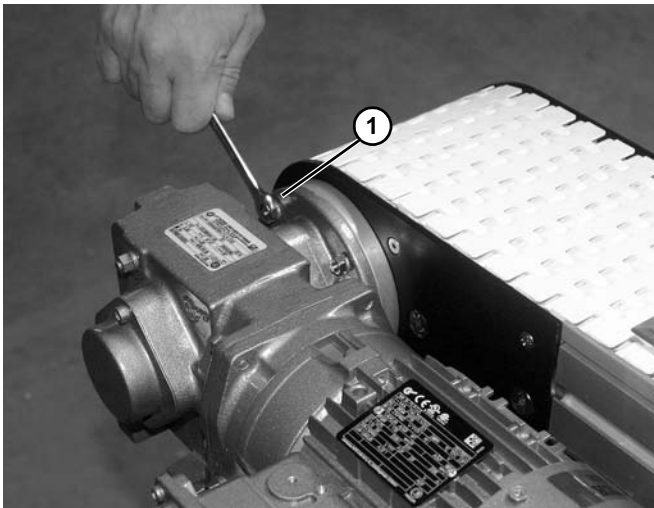

Figure 138
1. Remove four nuts (**Figure 138, item 1**) securing drive motor.